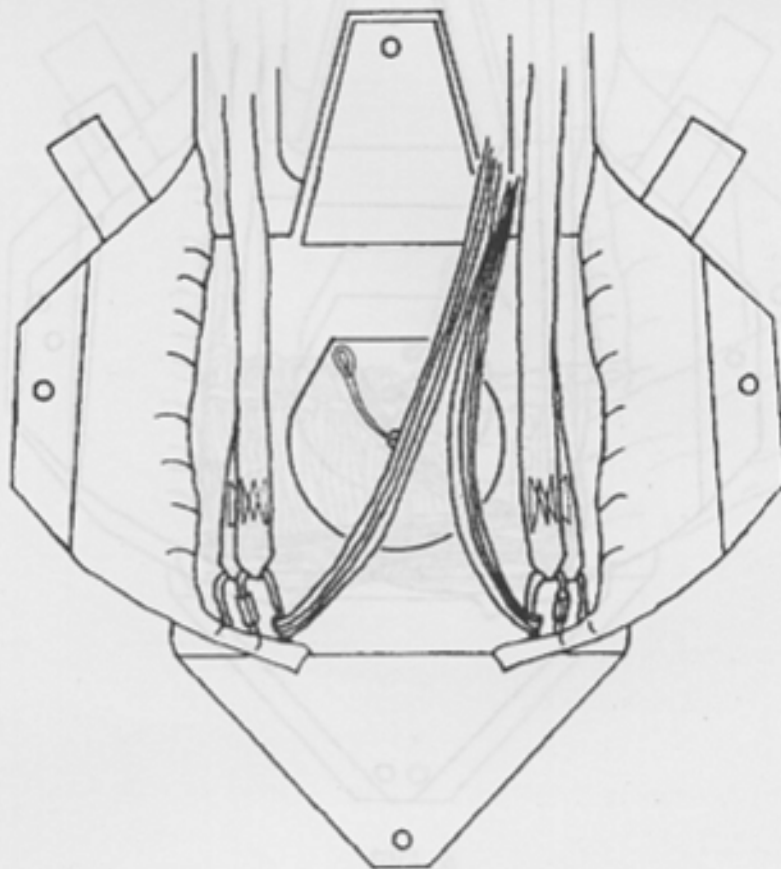
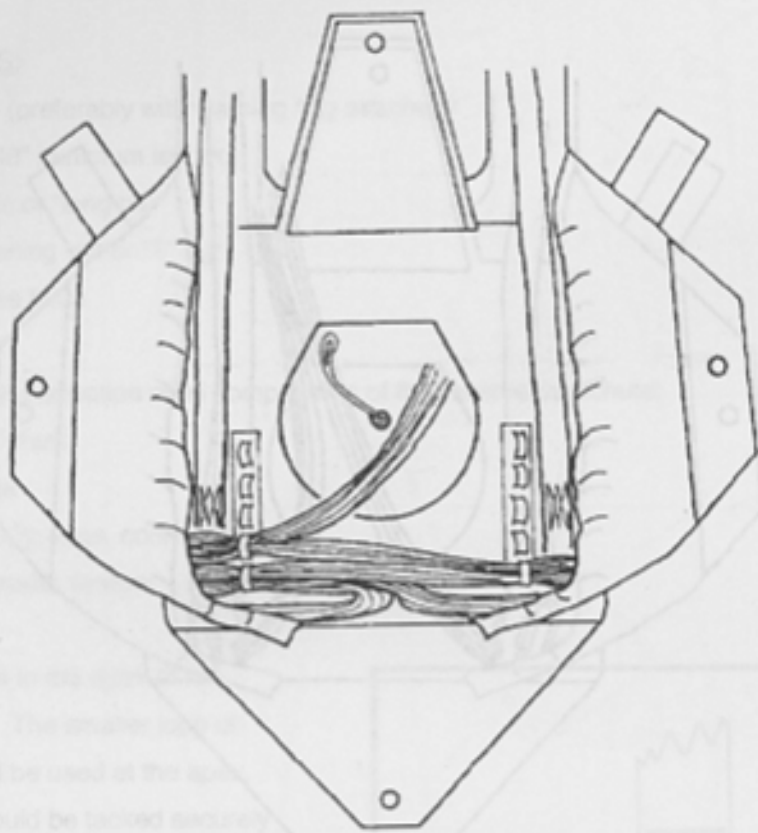

FIG. 2
FIG. 3
- 4a) If the canopy is equipped with a full diaper, all stows of the suspension lines will be made on the diaper. Do this in accordance with the canopy manufacturer's directions. Then lay the risers in the reserve container so that the connector links are in the lower corners (FIG. 2), and go to STEP 5.
Lay the risers in the container so that the connector links are in the lower corners (FIG. 2), and make the first stow of suspension lines in the lower left corner. Continue upward, making the stows the full width of the pack tray. (FIG. 3)